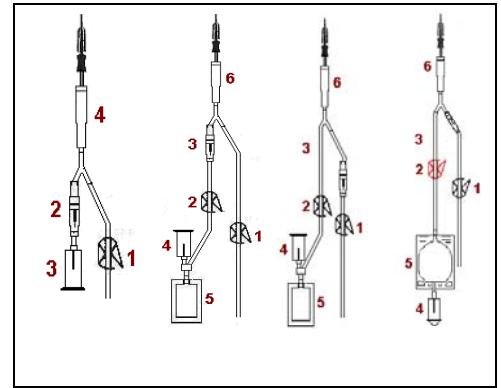

Figure 1 Figure 2 Figure 3 Figure 4
1. Before removing the needle's cap, close the clamp on the tubing to collection bag (for systems in Figure 1 and 2). If the system's donor line has breakaway valves, not necessary to close the clamp off.
2. Break open the breakaway valve on the tubing to the sampling holder / bag (for systems in Figure 1 and 2). **NOTE:** There are not any breakaway valves on the tubing to the sampling tubing holder / bag in the systems with a blood collection line with breakaway valves.
- i. Insert the sampling tubes into the tube holder and collect the required blood sample (Figure 1, No: 3).
- iii. Open the clamp on the tubing to the bag and start blood collection (Figure 1, No: 1).
4. After the sampling process is finished, break the breakaway valve on the tubing to the sampling tubing bag in the systems with a blood collection line with breakaway valves (Figure 3 and 4) and open the clamp in others (Figure 1 and 2).